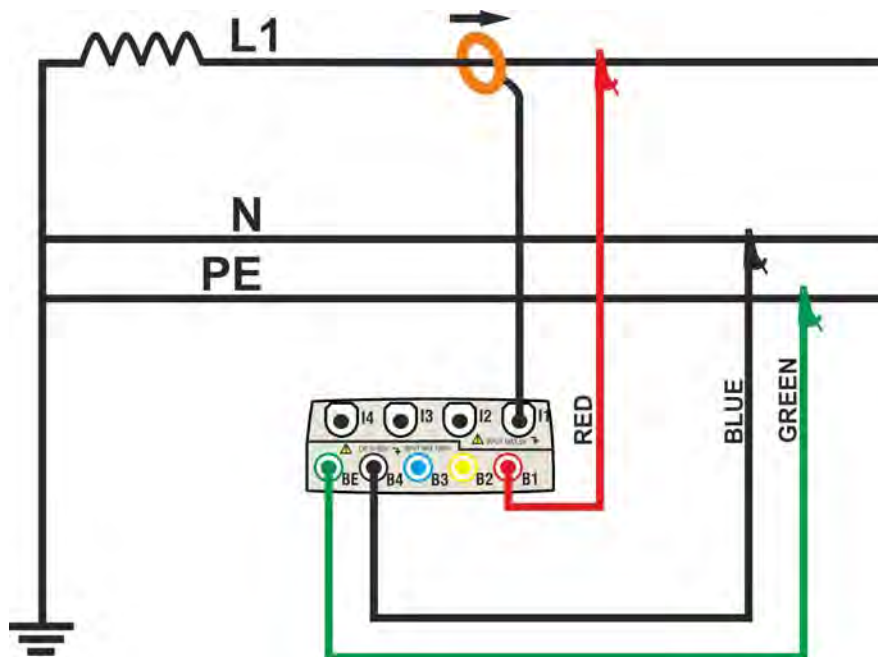

Fig. 131: Meter connection in a Single phase system – ENG_UK type
2. Connect voltage test leads on Phase, Neutral and Ground cables considering the colours as shown in Fig. 131).
3. Connect the transducer current clamp on L1 Phase cable as shown in Fig. 131) respecting the clamp's arrow direction indicating the current standard sequence from generator to load. **On Real Time Values' section screens always verify the positive value of Active Power and the power factor relative to load which should be normally inductive** before starting a recording. Reverse the clamp by 180 degrees on cables in case of negative readings.